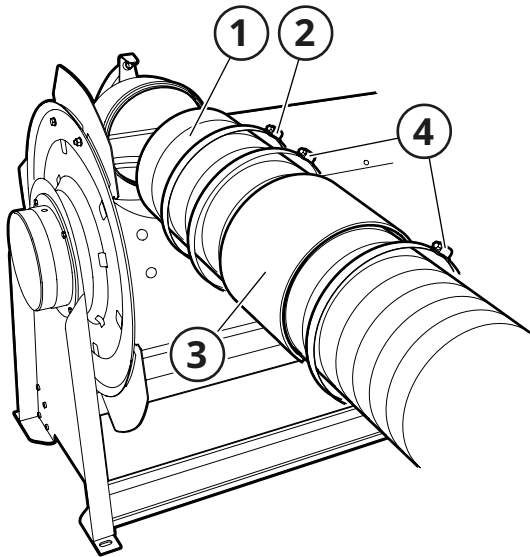

Fig. 10
- 6. Install the hose (2, Fig. 10) with any reducer (1) on the hose reel connection with hose clamps (3).